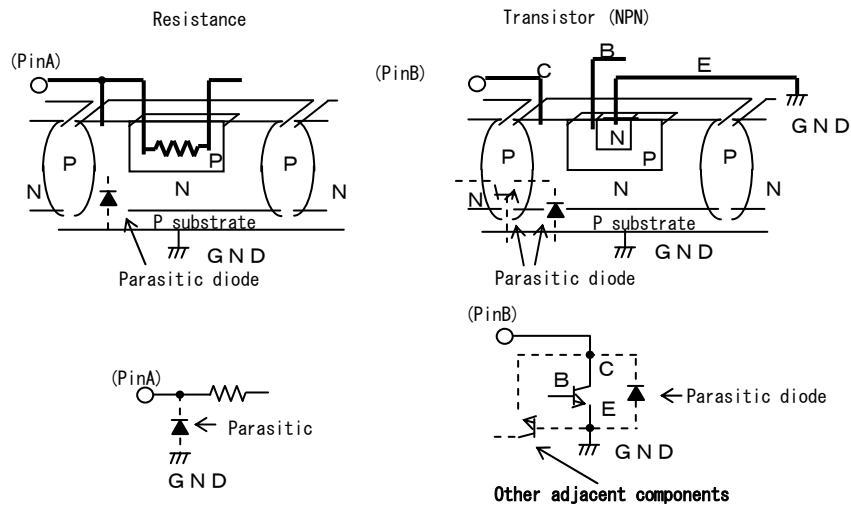

Fig. 4. Simplified structure of a Bipolar IC
12. This IC is a monolithic IC which (as shown is Fig. 4) has P⁺ substrate and between the various pins. A P-N junction is formed from this P layer of each pin. For example, the relation between each potential is as follows,